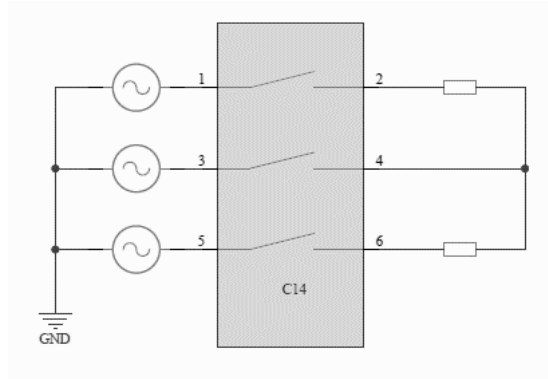

Figure 2 Possible application 1-phase without neutral line
- In the case of 1-phase loads without neutral line (Fig. 2), it must be ensured that all phases involved in the current flow are controlled in order to avoid unintentional faults. Furthermore, the return line can be chosen arbitrarily, it is not mandatory to use phase L2.